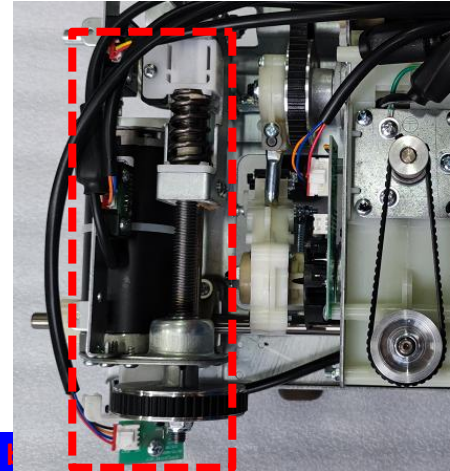

Figure 3
- D. Check whether the stretch belt and stretch detection plug-in fall off (Figure 3);